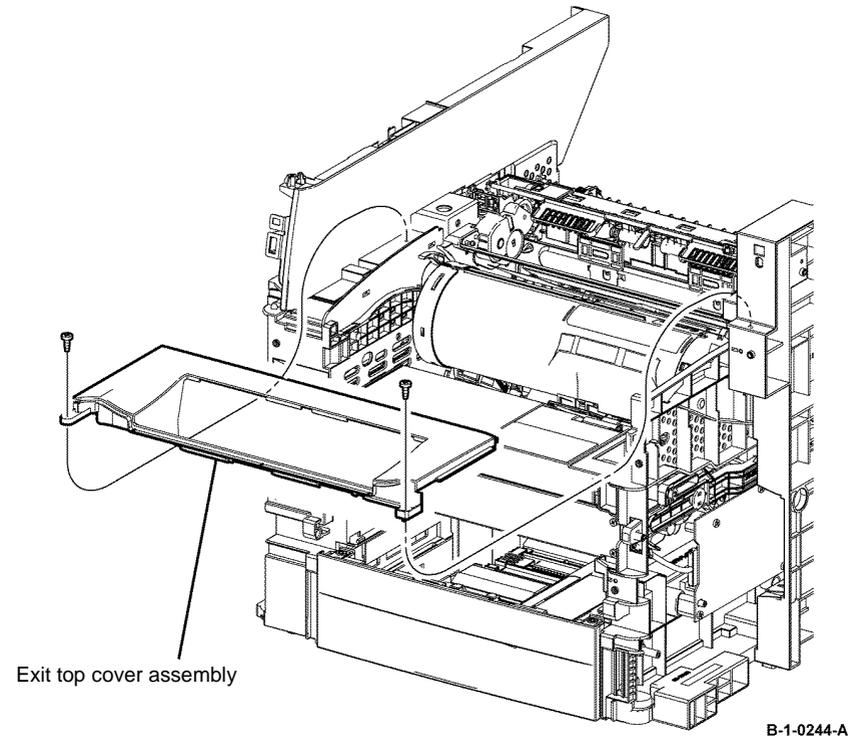

Figure 2 Exit top cover assembly removal
7. Remove two screws (silver, tapping, 8mm), then remove the exit top cover assembly, Figure 2.